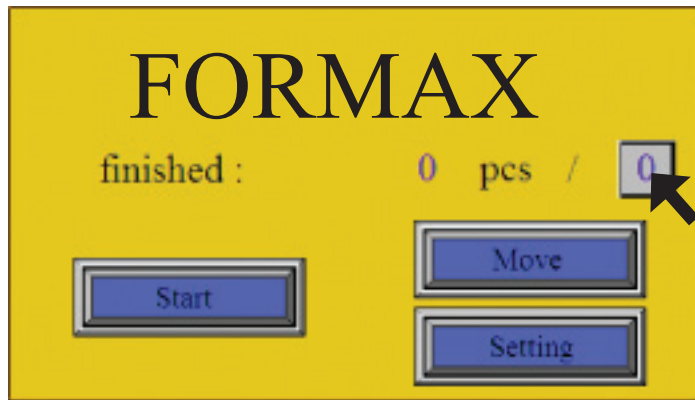
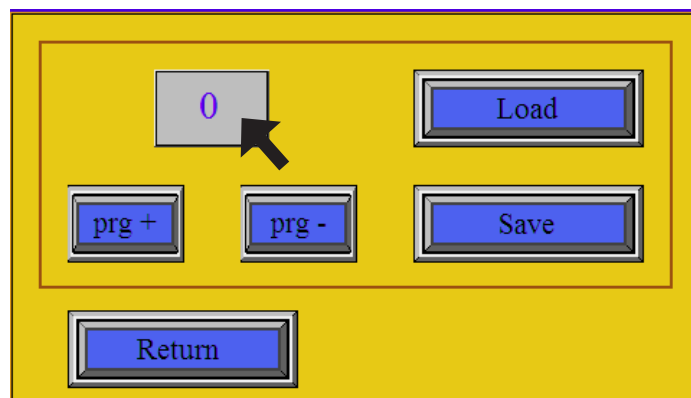

Fig. 10a: Saving and loading program
Fig. 10b: Saving and loading a program
1. The software allows up to 5 different jobs to be saved. The number and position of the segments is set according to the procedure described on page 7 “Setting the Number of Creases/Perforations”. After setting the required number of segments and their position the program can be saved. On the main screen press the number in the right side of the screen showing the program number (fig. 10a). The menu for saving and loading of a program (fig. 10b) appears.